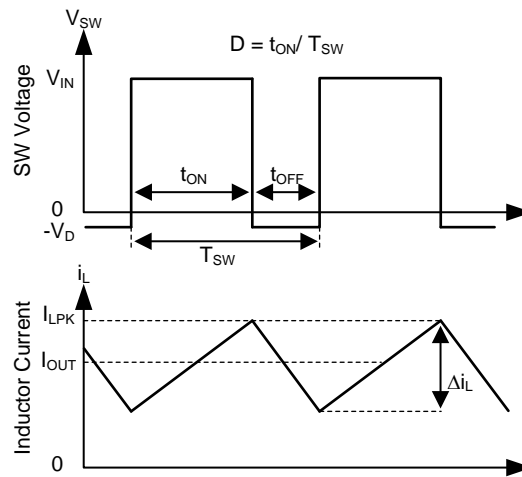

Figure 13. SW Node and Inductor Current Waveforms in Continuous Conduction Mode (CCM)
The following operating description of the LMR23610 will refer to the Functional Block Diagram and to the waveforms in Figure 13. LMR23610 is a step-down synchronous buck regulator with integrated high-side (HS) and low-side (LS) switches (synchronous rectifier). The LMR23610 supplies a regulated output voltage by turning on the HS and LS NMOS switches with controlled duty cycle. During high-side switch ON time, the SW pin voltage swings up to approximately V_{IN} , and the inductor current i_L increase with linear slope $(V_{IN} - V_{OUT}) / L$. When the HS switch is turned off by the control logic, the LS switch is turned on after an anti-shoot-through dead time. Inductor current discharges through the LS switch with a slope of $-V_{OUT} / L$. The control parameter of a buck converter is defined as Duty Cycle $D = t_{ON} / T_{SW}$, where t_{ON} is the high-side switch ON time and T_{SW} is the switching period. The regulator control loop maintains a constant output voltage by adjusting the duty cycle D . In an ideal buck converter, where losses are ignored, D is proportional to the output voltage and inversely proportional to the input voltage: $D = V_{OUT} / V_{IN}$.